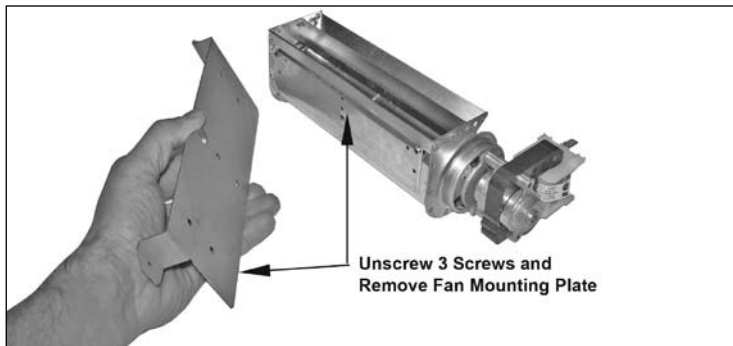

Fig. 12 Remove Fan Bracket
- Remove and reinstall the Fan Mounting Bracket to the fan assembly reversed (see Fig. 12 & 13). (The mounting bracket is supplied set up for heater model 530 application).